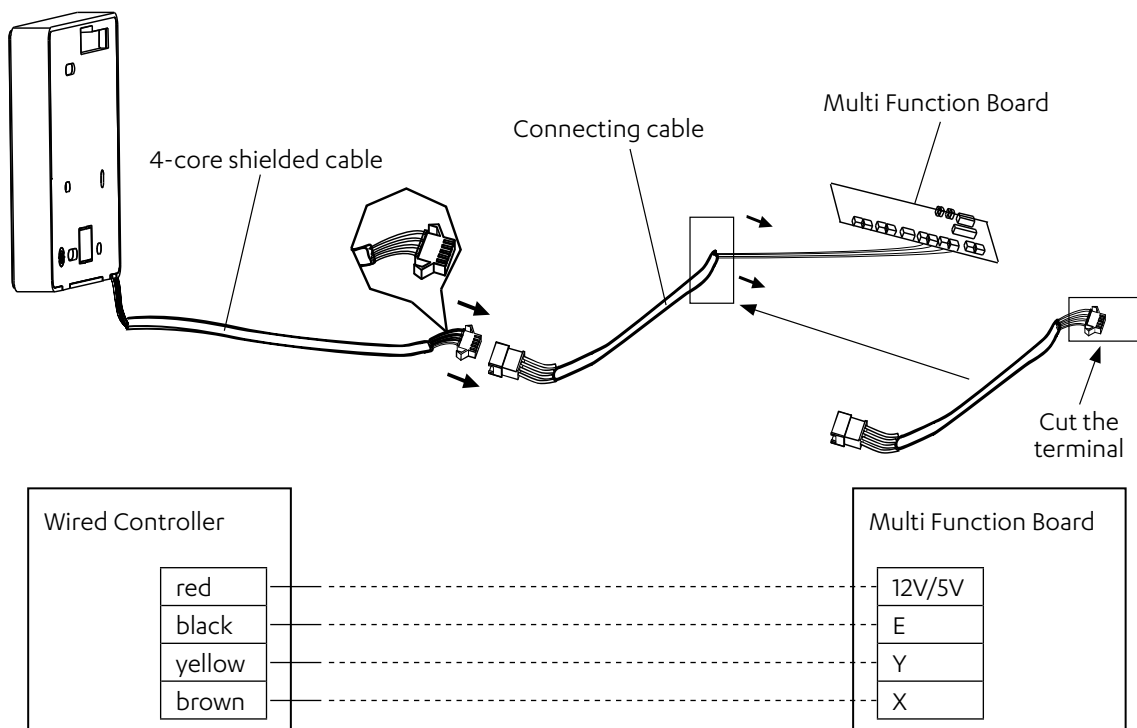

Fig 3-8
- Cut the terminal of the longer connection cable (See Fig 3-8).